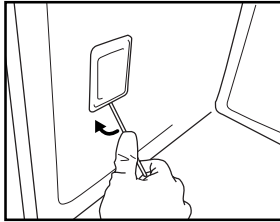

Fig. 7
3. Use a screwdriver to prise off the lamp cover (Fig. 7).